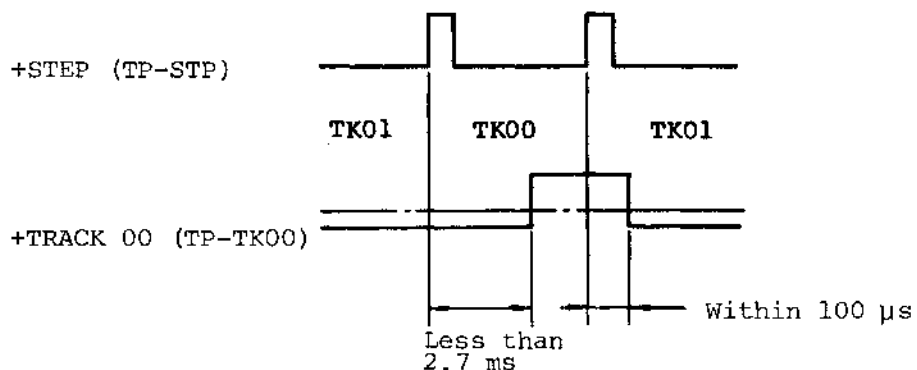

Fig. 10 Track 00 Detection
- ④ Repetitively seek Track 00-01 and confirm that the TP-TK00 timing is within tolerance. (Refer to Fig. 10.)